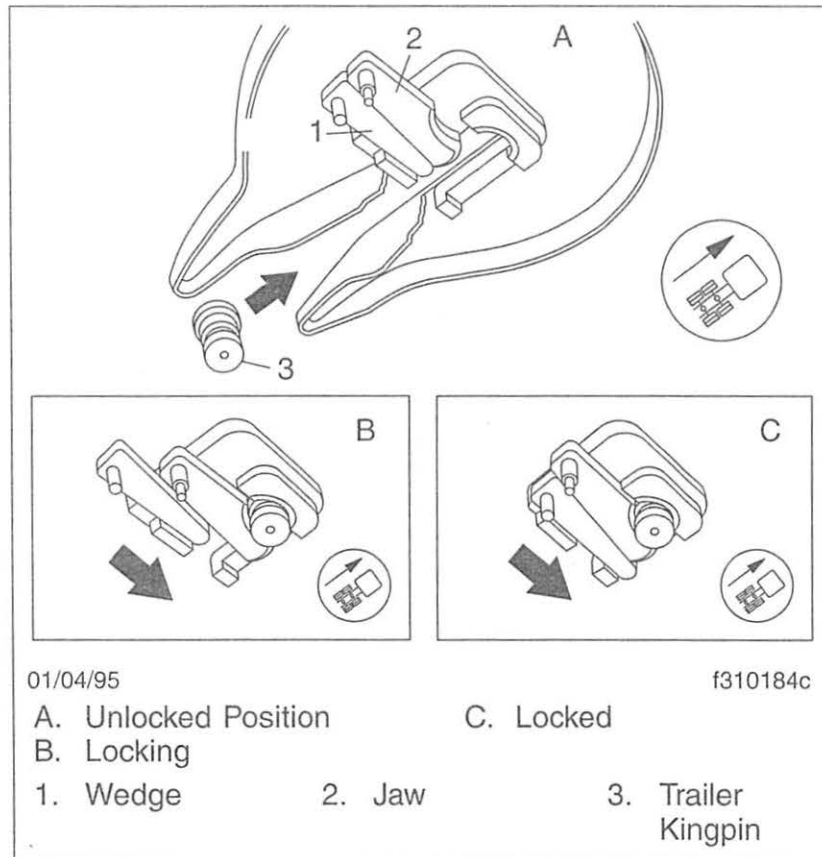

Fig. 10.16, Fontaine Kingpin Lock Mechanism
Fifth Wheel Lock Mechanism for Trailer Kingpin (Fig. 10.16)
During coupling (**Fig. 10.16**), the motion of the kingpin entering the jaw will actuate the jaw and wedge. The jaw
3. Position the tractor so that the fifth wheel lock opening is in line (both vertically and horizontally) with the trailer kingpin. The kingpin should be in a position to enter the throat of the locking mechanism (**Fig. 10.16**). Adjust the trailer landing gear to give enough alignment height for positive kingpin lockup.